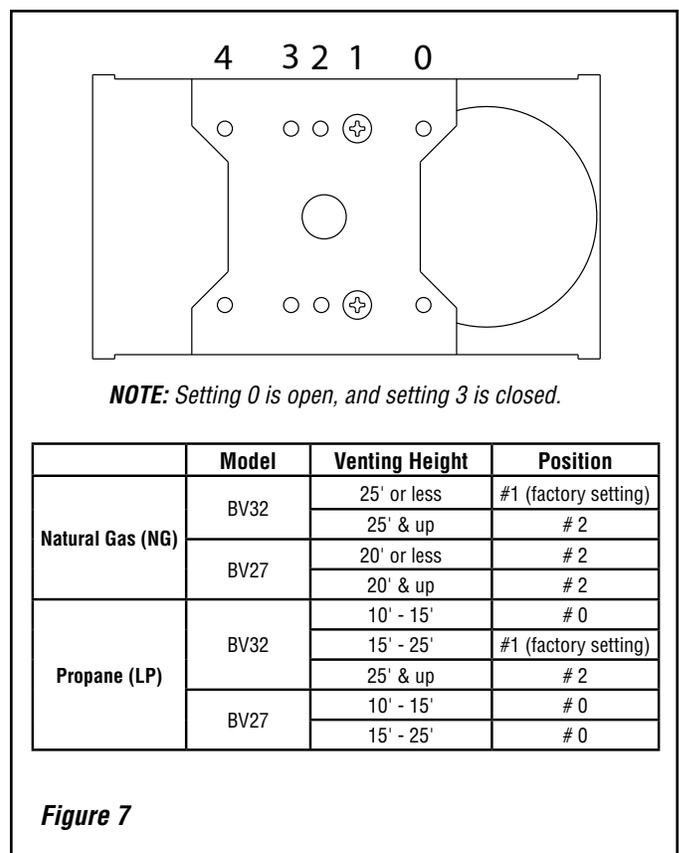

Figure 7
The flue restrictor settings shown in Figure 7 are for typical installations and are based upon laboratory testing. To achieve proper combustion, adjustments may be needed to account for variables in the installation, elevation, and typical operating temperatures.
- Refer to table in Figure 7 and position the flue restrictor to the recommended setting and reattach with the two screws removed in step 1.